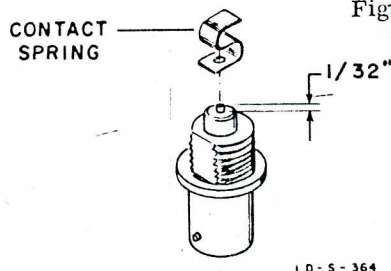

Figure 4. Cutting Center Conductor Lead to Accommodate Contact Spring
- Cut center conductor lead to approximately 1/32 inch (see Figure 4).
31. Parts mentioned in the following procedure are identified in Figures 4 and 5. Tools required are listed in Paragraph 28.